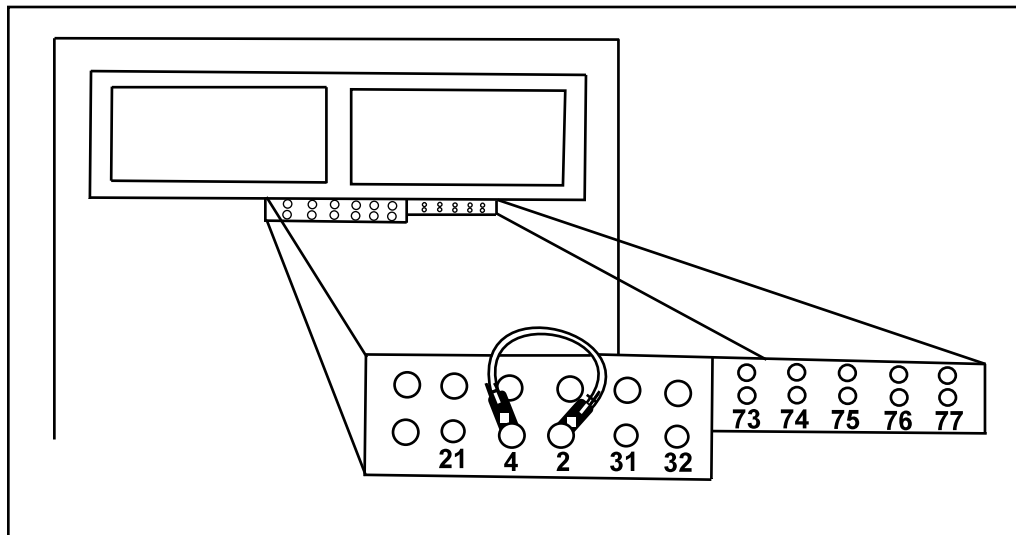
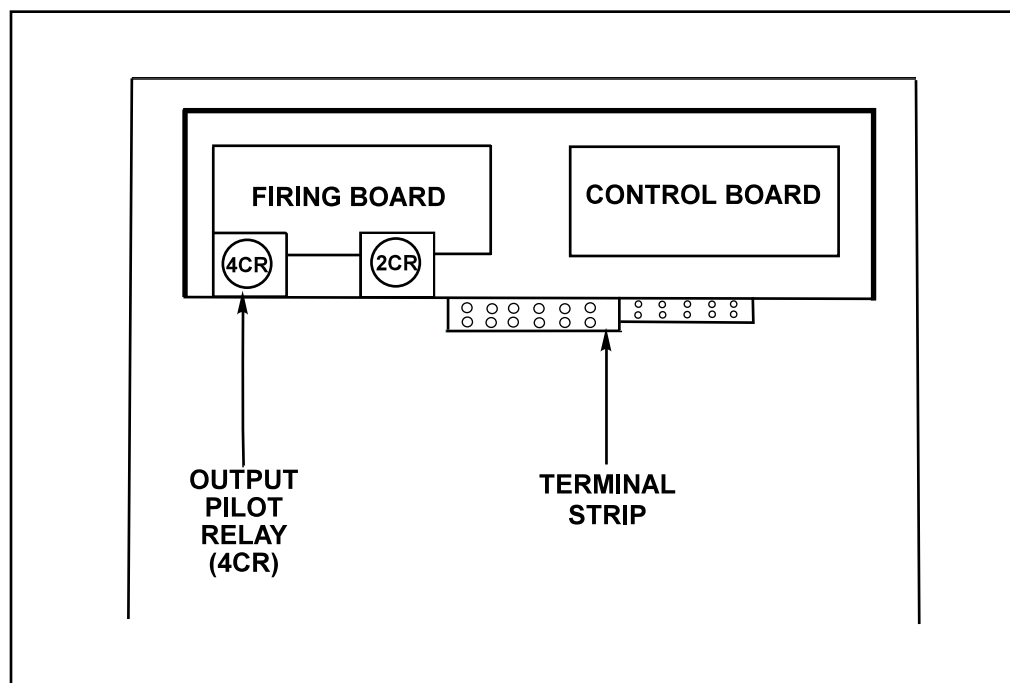

FIGURE F.7 - Terminal Strip Jumper Wire Connections
FIGURE F.8 - Output Pilot Relay 4CR Location
6. Connect a jumper wire from terminal #2 to terminal #4 on the terminal strip. These can be accessed through the Front Panel Assembly door. See Figure F.7.
15. Test the Output Pilot Relay (4CR) for operation by removing and replacing the jumper wire repeatedly from terminal #2. See Figure F.7. This should cause the relay contacts to open and close. The contacts can be seen closing and opening through the clear plastic relay case or can be heard opening and closing. If the Output Pilot Relay (4CR) does not close when energized, check for loose or faulty wiring. See Wiring Diagram and Figure F-8.
4. Connect a jumper wire from terminal #2 to terminal #4 on the terminal strip. These can be accessed through the front panel assembly door. See Figure F.7.